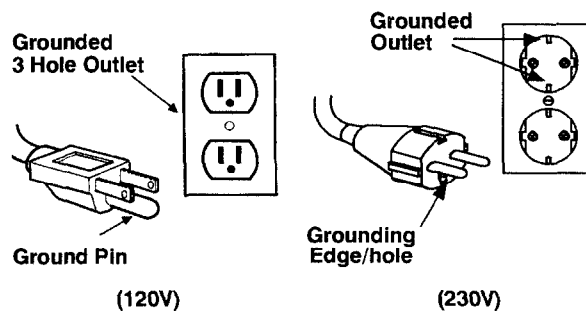

FIG. 9.
4. With the charger DC outlet plug disconnected from batteries, plug charger power supply cord into a grounded wall outlet. (Figure 9)